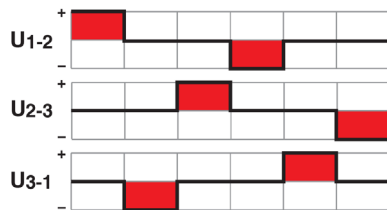

Figure 6-35 Block commutation of EC (BLDC) motors – Definition of phases
- either ensure that the alignment follows the specified pattern (→ Figure 6-35)